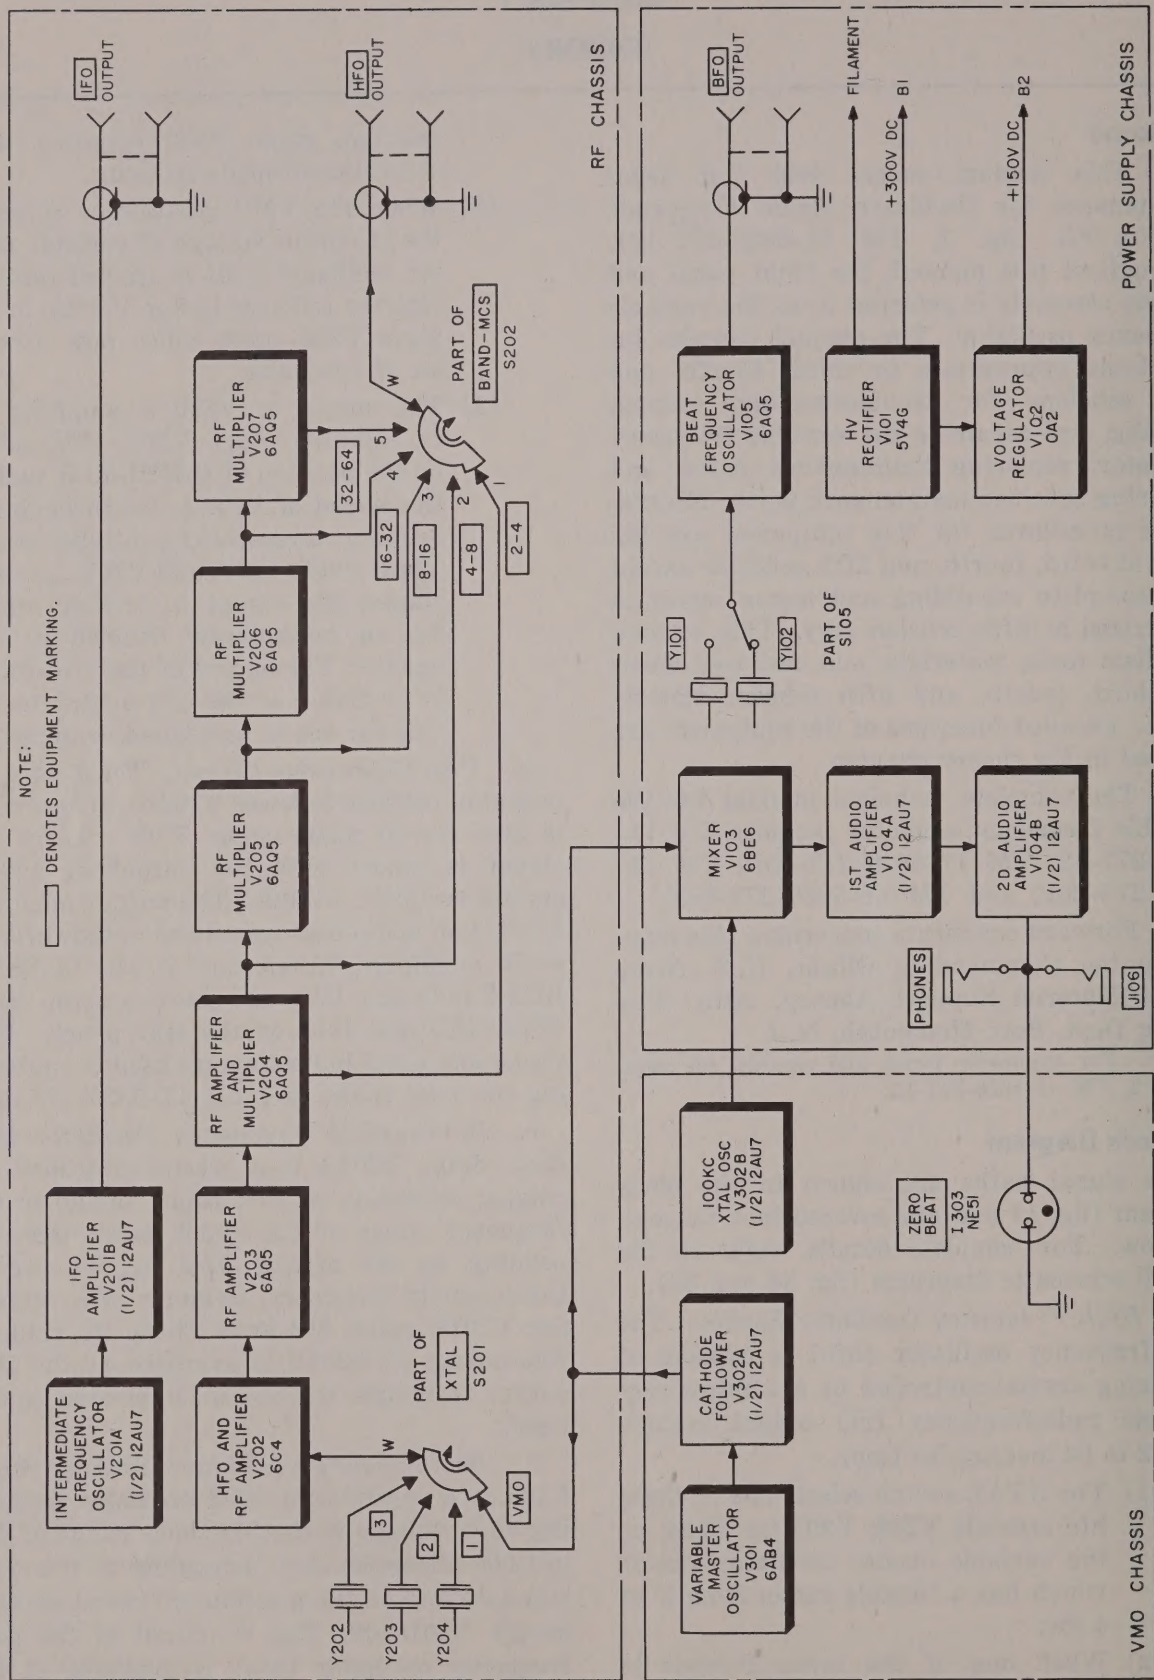

Figure 1. Variable frequency oscillator, block diagram.
a. This manual covers field and depot maintenance for Oscillator, Radio Frequency O-330A/FR (fig. 1, TM 11-5820-277-12). Throughout this manual, the front panel and chassis assembly is referred to as the variable frequency oscillator. The manual includes instructions appropriate to third, fourth, and fifth echelons for troubleshooting, testing, aligning, and repairing the variable frequency oscillator, replacing maintenance parts, and repairing specified maintenance parts. Maintenance procedures for this equipment are the same at third, fourth, and fifth echelons except that complete rebuilding and meter repair is authorized at fifth echelon only. This manual also lists tools, materials, and test equipment for third, fourth, and fifth echelon maintenance. Detailed functions of the equipment are covered in the theory chapter.
The signal paths are shown in the block diagram (fig. 1) and are covered in *a* through *e* below. For complete details, refer to the overall schematic diagrams (fig. 34 and 35).